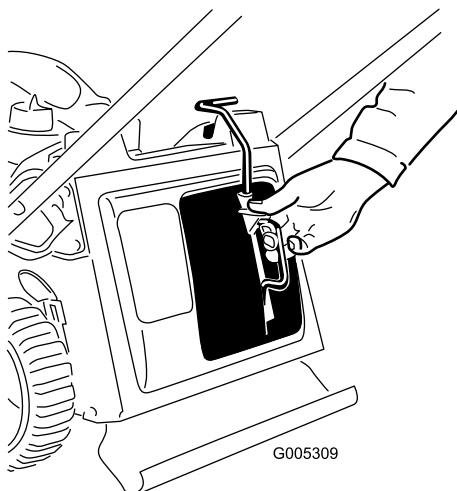

Figure 24
3. Insert the mulch plug (Figure 24).